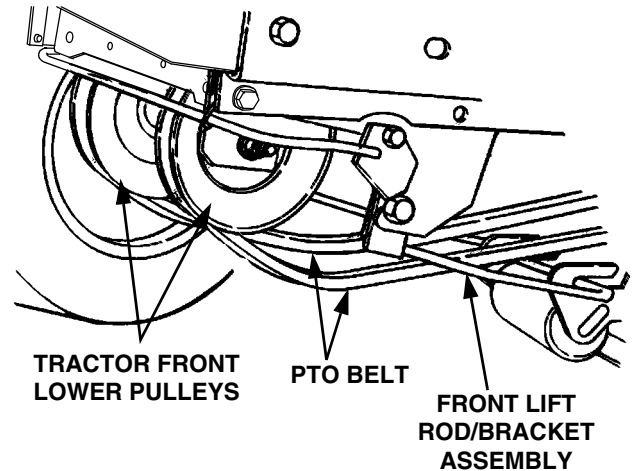

Figure 50
12. Pass the PTO belt downward, inside the tractor frame, until the belt is below the two tractor front lower pulleys. Twist the two sides of the PTO belt 1/4 turn inward to engage the narrow sides of the belt into the grooves of the two tractor front-lower pulleys (See Figure 50).